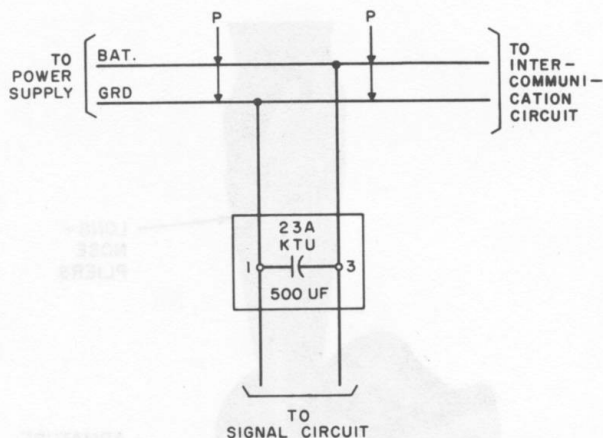

Fig. 20—Noise Suppression Filter
5.05 Where a common battery feeder is used for intercommunicating and signaling, connect a 23A KTU across the signal circuit (Fig. 20).